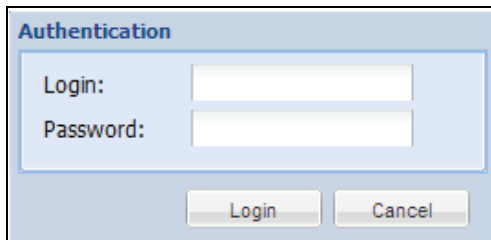

Figure 100. Login Authentication
5. Enter a valid user name and password in the authentication dialog box (see Figure 100). Click **Login** to continue or **Cancel** to exit.